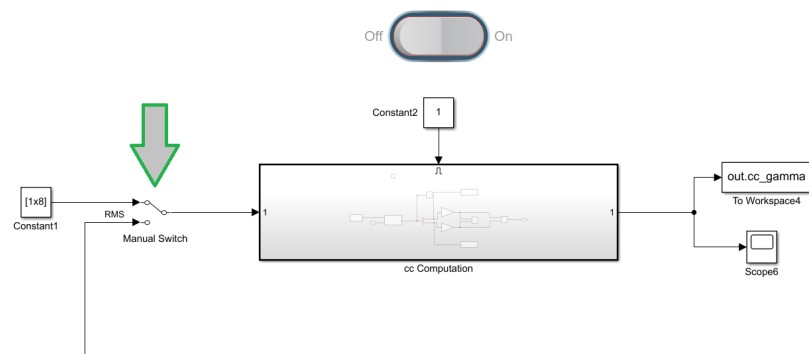

Figure 5: EMG Manual Switch
9. in 'gForce_data_acquisitionn_ccOnline_ROS_v2_1.slx' set the Manual Switch 'up' and the Switch Button 'off' (Figures 5 and 6)
5. in 'gForce_data_acquisitionn_ccOnline_ROS_v2_1.slx' set the Manual Switch 'down' and the Switch Button 'on' (Figures 5 and 6)